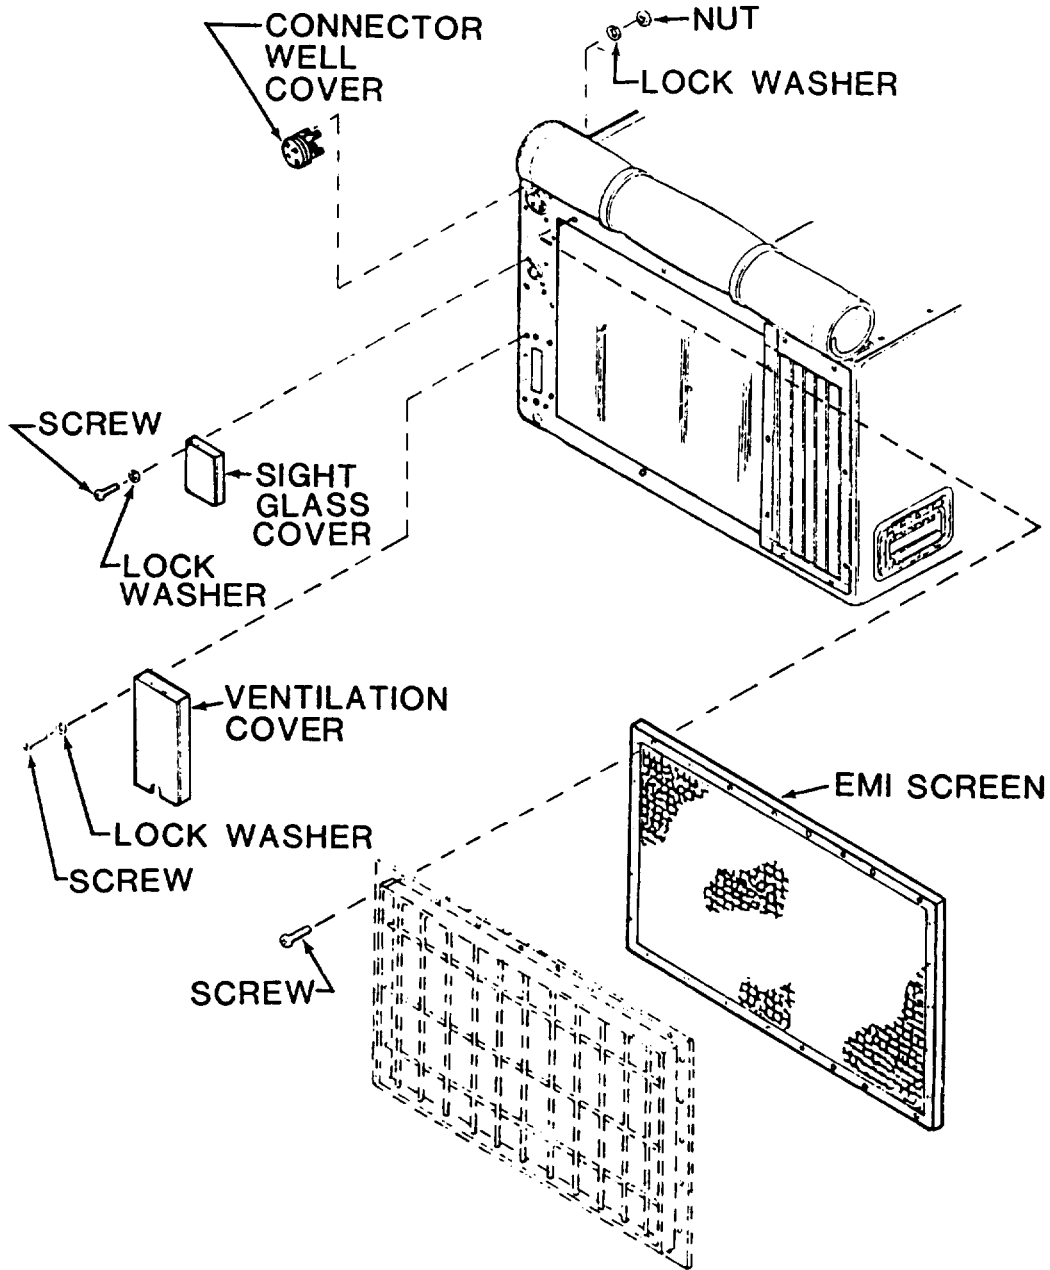

Figure 1-2.1 Electromagnetic Pulse (EMP) Kit Parts
(4) Models F18H-3SA and F18H-3SB may be equipped with EMP Kit parts. See fig. 1-2.1 for identification of EMP Kit parts to determine if the air conditioner has been modified to include this kit.